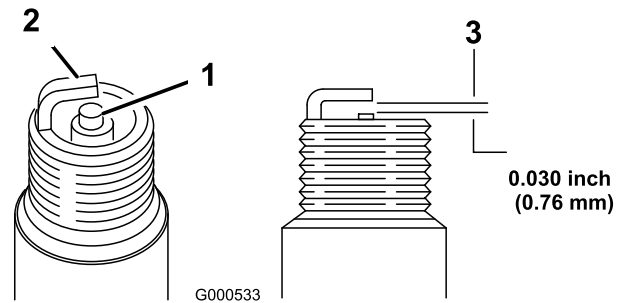

Figure 22
5. Set the gap on the plug to 0.76 mm (0.030 inch); refer to Figure 22.